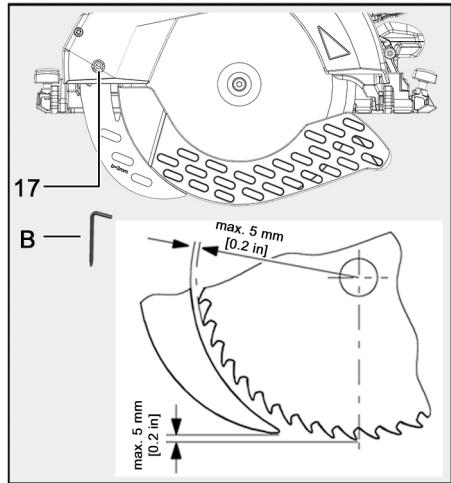

Fig. 12: Distance riving knife to saw blade
2. Using the Allen key (B) provided, turn the screw (17) **counterclockwise to loosen it**.
- Do not exceed the maximum distance to the saw blade (see Fig. 12).
4. Using the Allen key (B), turn the flange screw (17) **clockwise** to tighten it.